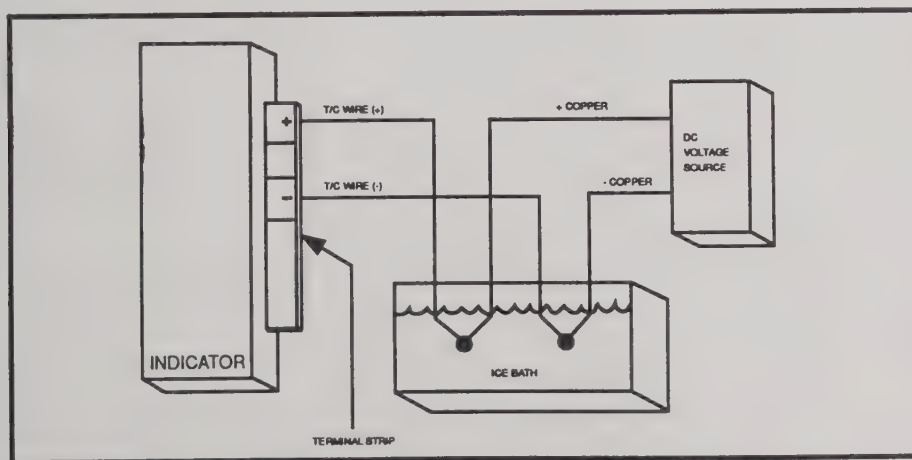
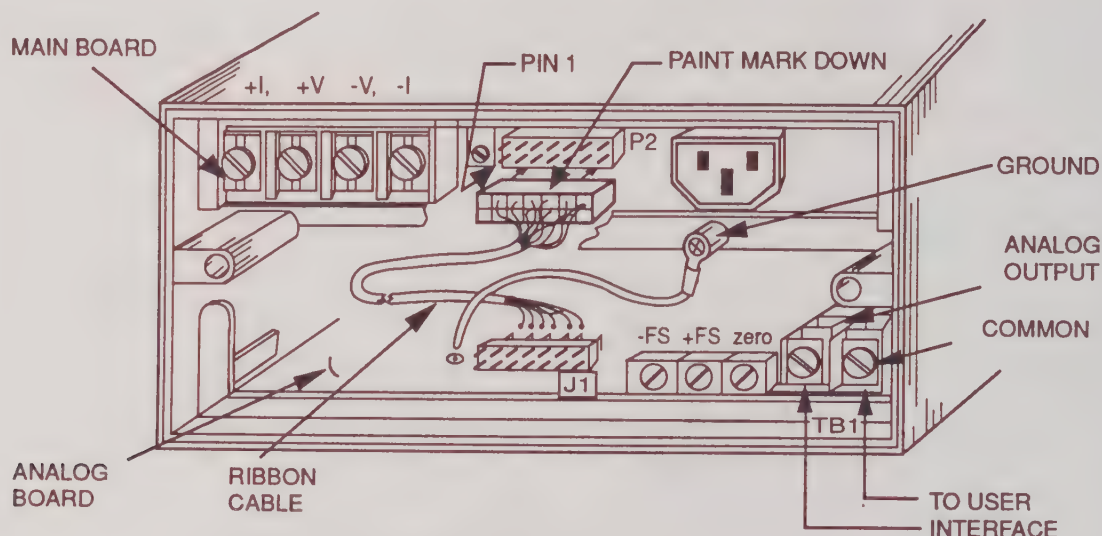

Figure 6. Calibration Setup
Figure 9. Rear View, Option 005A Calibration Pots
- Prepare test wires for ice bath as shown in Figure 6.
The Analog Output board is provided with three pots for calibration. See Figure 9. Use the calibration setup shown in Figure 6 to calibrate the Analog Output board. Connect a known source to the indicator from which the Analog Output board is converting. Connect a DVM with 100 μ V resolution to the output terminals of the Analog Output board. Adjust R18 (zero), R14 (+ full-scale), and R13 (– full-scale) with the appropriate input in that order until the millivolt output agrees with the indicator display in the following fashion: